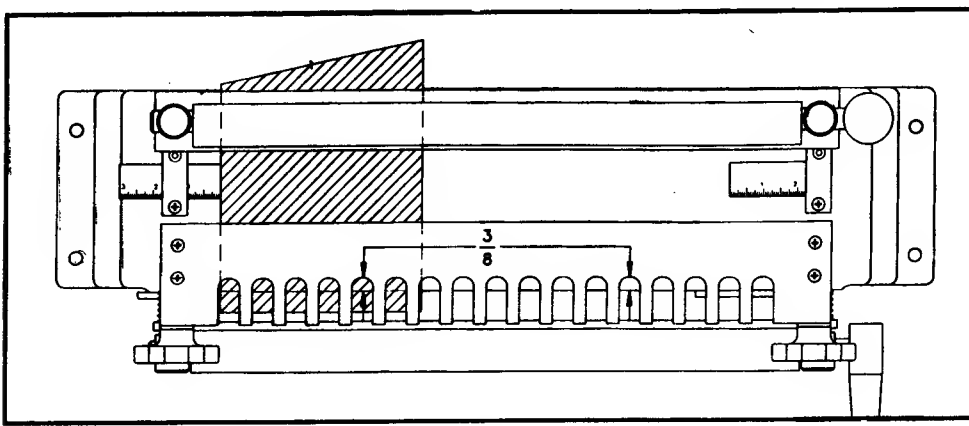

Fig. 39
2. Place Box Templet on top of scrap and position so that there is about 3/8" (Fig. 39) from back of templet slot to front face of jig at both ends of templet and tighten knobs to secure templet in place.